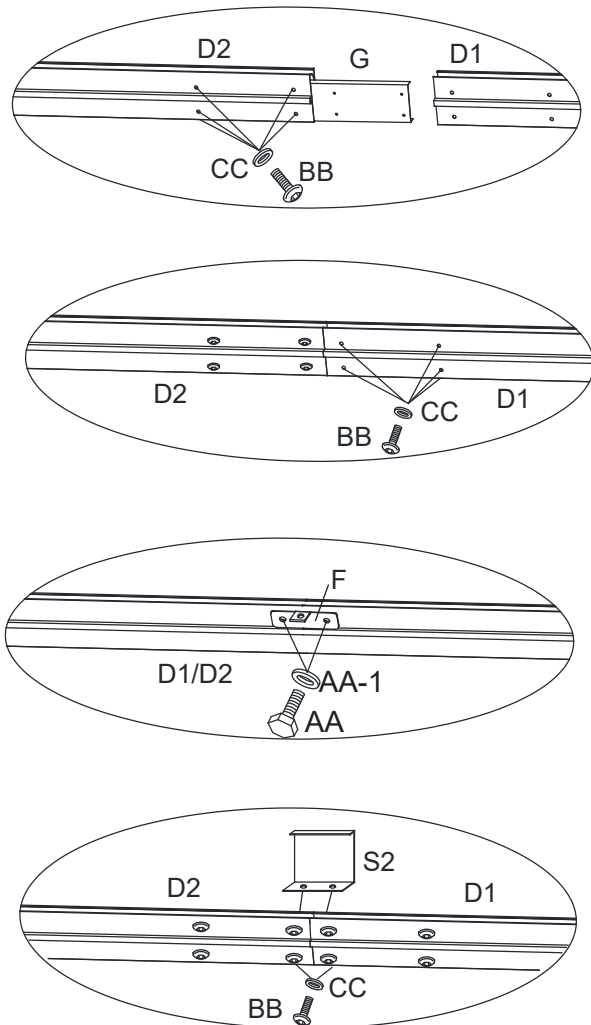

Fig.3.2
3.2.Connect the Long Left Lintel (D1) with the Long Right Lintel (D2) through the Lintel Connector - Large (G) with bolt (BB) and washer (CC) , then screw in the Connector (F) into the lintel (D1/D2) using bolt (AA) and Steel washer (AA-1),put the Lintel Cover - Center (S2) onto the joint of the two lintels with bolt (BB) and washer (CC), pay attention to install the screws based on the orders shown in the illustration. See.Fig.3.2